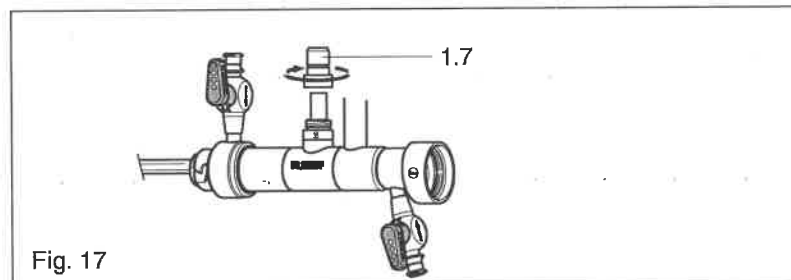

Fig. 17
8.5.2 Assembly of PANOVIEW Operating Telescope (1)
- ◇ Disconnect the rinsing adapter (A) and place into the small parts basket.
- ◇ Screw on the cold-light connector (1.7) (fig. 17).